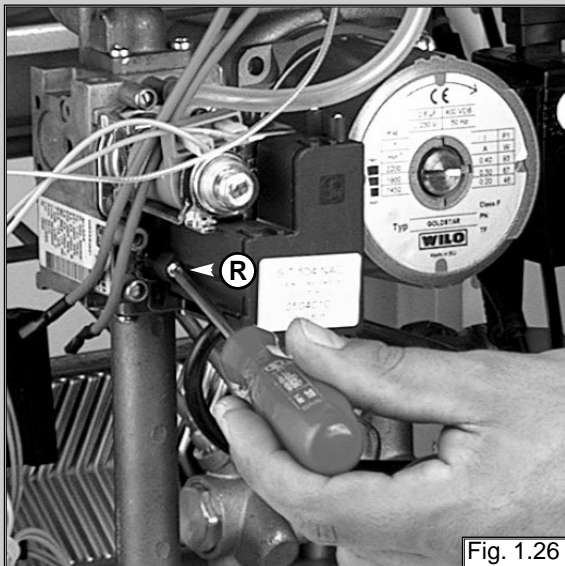

Fig. 1.26
2. Remove the screws "R" (see fig. 1.26) with a Pozidrive No. 2 star tip screwdriver;